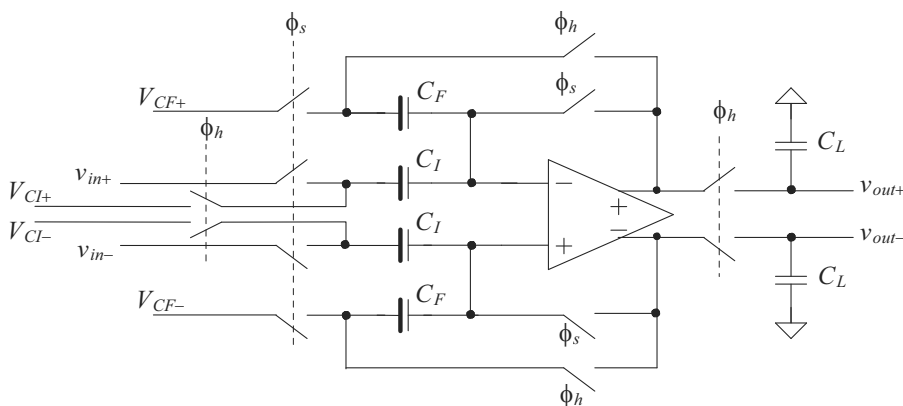

Figure 30.80 Circuit used in problem 30.14.
- 30.14 Derive the transfer function for the circuit shown in Fig. 30.80.